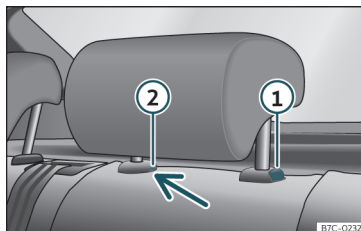

Fig. 105 Rear headrest: removal.
- Press button»» **Fig. 105** ①, while simultaneously pressing on the security hole ② with a flat screwdriver a maximum of 5 mm wide, and remove the headrest.